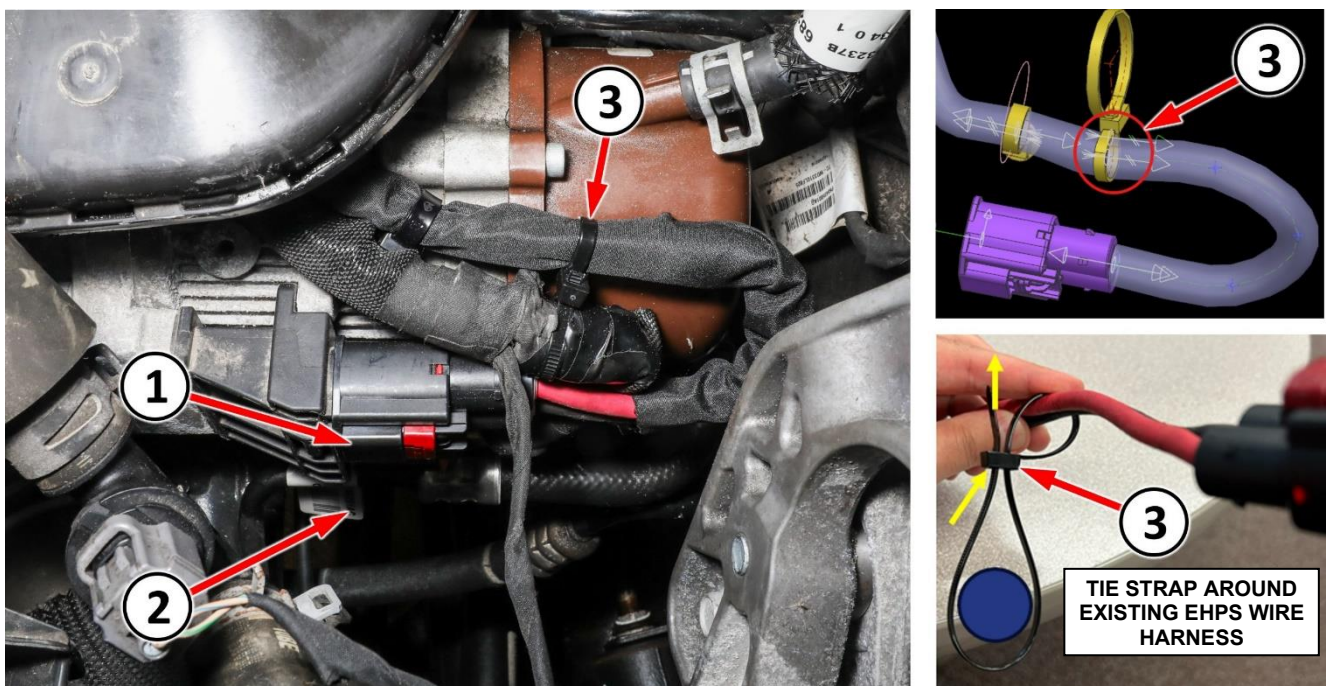

Figure A18 – Power Steering Pump Wire Harness Routing and Clipping
50. Connect the electrical connectors to the EHPS pump then engage the red CPA connector latch in locked position (Figure A18). Verify connection with Push-Pull-Push on connector, not on circuits.